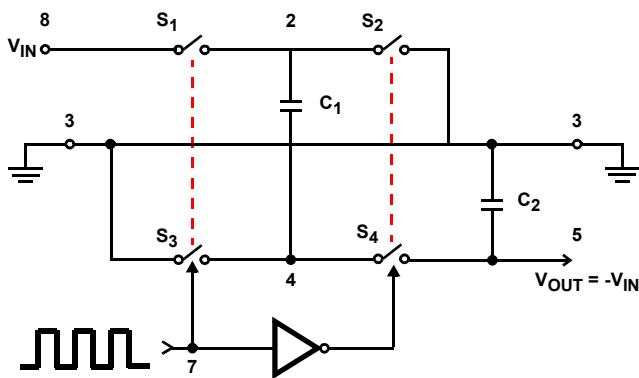
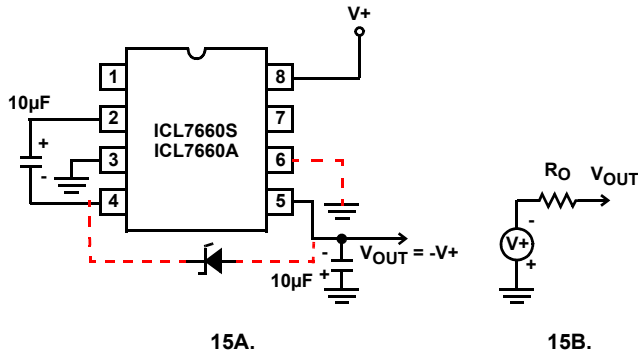
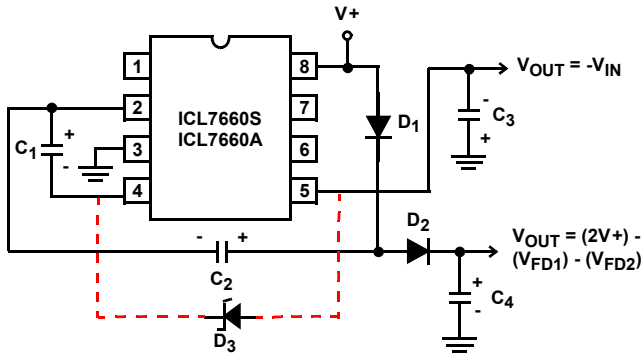
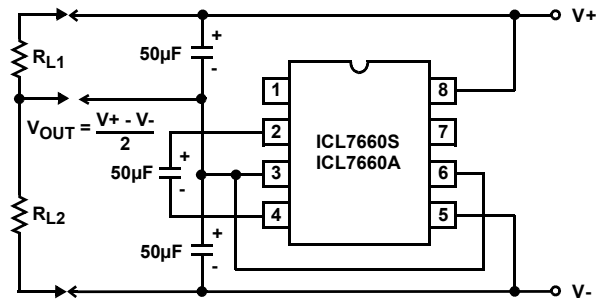

FIGURE 14. IDEALIZED NEGATIVE VOLTAGE CONVERTER
FIGURE 15. SIMPLE NEGATIVE CONVERTER AND ITS OUTPUT EQUIVALENT
FIGURE 19. COMBINED NEGATIVE VOLTAGE CONVERTER AND POSITIVE DOUBLER
FIGURE 20. SPLITTING A SUPPLY IN HALF
The ICL7660S and ICL7660A contain all the necessary circuitry to complete a negative voltage converter, with the exception of two external capacitors, which may be inexpensive 10 μ F polarized electrolytic types. The mode of operation of the device may best be understood by considering Figure 14, which shows an idealized negative voltage converter. Capacitor C_1 is charged to a voltage, V_+ , for the half cycle, when switches S_1 and S_3 are closed. (Note: Switches S_2 and S_4 are open during this half cycle). During the second half cycle of operation, switches S_2 and S_4 are closed, with S_1 and S_3 open, thereby shifting capacitor C_1 to C_2 such that the voltage on C_2 is exactly V_+ , assuming ideal switches and no load on C_2 . The ICL7660S and ICL7660A approach this ideal situation more closely than existing non-mechanical circuits.
In the ICL7660S and ICL7660A, the four switches of Figure 14 are MOS power switches; S_1 is a P-Channel device; and S_2 , S_3 and S_4 are N-Channel devices. The main difficulty with this approach is that in integrating the switches, the substrates of S_3 and S_4 must always remain reverse biased with respect to their sources, but not so much as to degrade their "ON" resistances. In addition, at circuit start-up, and under output short circuit conditions ($V_{OUT} = V_+$), the output voltage must be sensed and the substrate bias adjusted accordingly. Failure to accomplish this would result in high power losses and probable device latch-up.
where V_1 and V_2 are the voltages on C_1 during the pump and transfer cycles. If the impedances of C_1 and C_2 are relatively high at the pump frequency (see Figure 14) compared to the value of R_L , there will be a substantial difference in the voltages, V_1 and V_2 . Therefore it is not only desirable to make C_2 as large as possible to eliminate output voltage ripple, but also to employ a correspondingly large value for C_1 in order to achieve maximum efficiency of operation.
The majority of applications will undoubtedly utilize the ICL7660S and ICL7660A for generation of negative supply voltages. Figure 15 shows typical connections to provide a negative supply where a positive supply of +1.5V to +12V is available. Keep in mind that pin 6 (LV) is tied to the supply negative (GND) for supply voltage below 3.5V.
The output characteristics of the circuit in Figure 15 can be approximated by an ideal voltage source in series with a resistance as shown in Figure 15B. The voltage source has a value of $-(V_+)$. The output impedance (R_O) is a function of the ON resistance of the internal MOS switches (shown in Figure 14), the switching frequency, the value of C_1 and C_2 , and the ESR (equivalent series resistance) of C_1 and C_2 . A good first order approximation for R_O is shown in Equation 2:
Figure 19 combines the functions shown in Figure 15 and Figure 18 to provide negative voltage conversion and positive voltage doubling simultaneously. This approach would be suitable, for example, for generating +9V and -5V from an existing +5V supply. In this instance, capacitors C_1 and C_3 perform the pump and reservoir functions, respectively, for negative voltage generation, while capacitors C_2 and C_4 are pump and reservoir, respectively, for the doubled positive voltage. There is a penalty in this configuration which combines both functions, however, in that the source impedances of the generated supplies will be somewhat higher, due to the finite impedance of the common charge pump driver at pin 2 of the device.
The bidirectional characteristics can also be used to split a high supply in half, as shown in Figure 20. The combined load will be evenly shared between the two sides, and a high value resistor to the LV pin ensures start-up. Because the switches share the load in parallel, the output impedance is much lower than in the standard circuits, and higher currents can be drawn from the device. By using this circuit, and then the circuit of Figure 15, +15V can be converted, via +7.5 and -7.5, to a nominal -15V, although with rather high series output resistance (~250Ω).